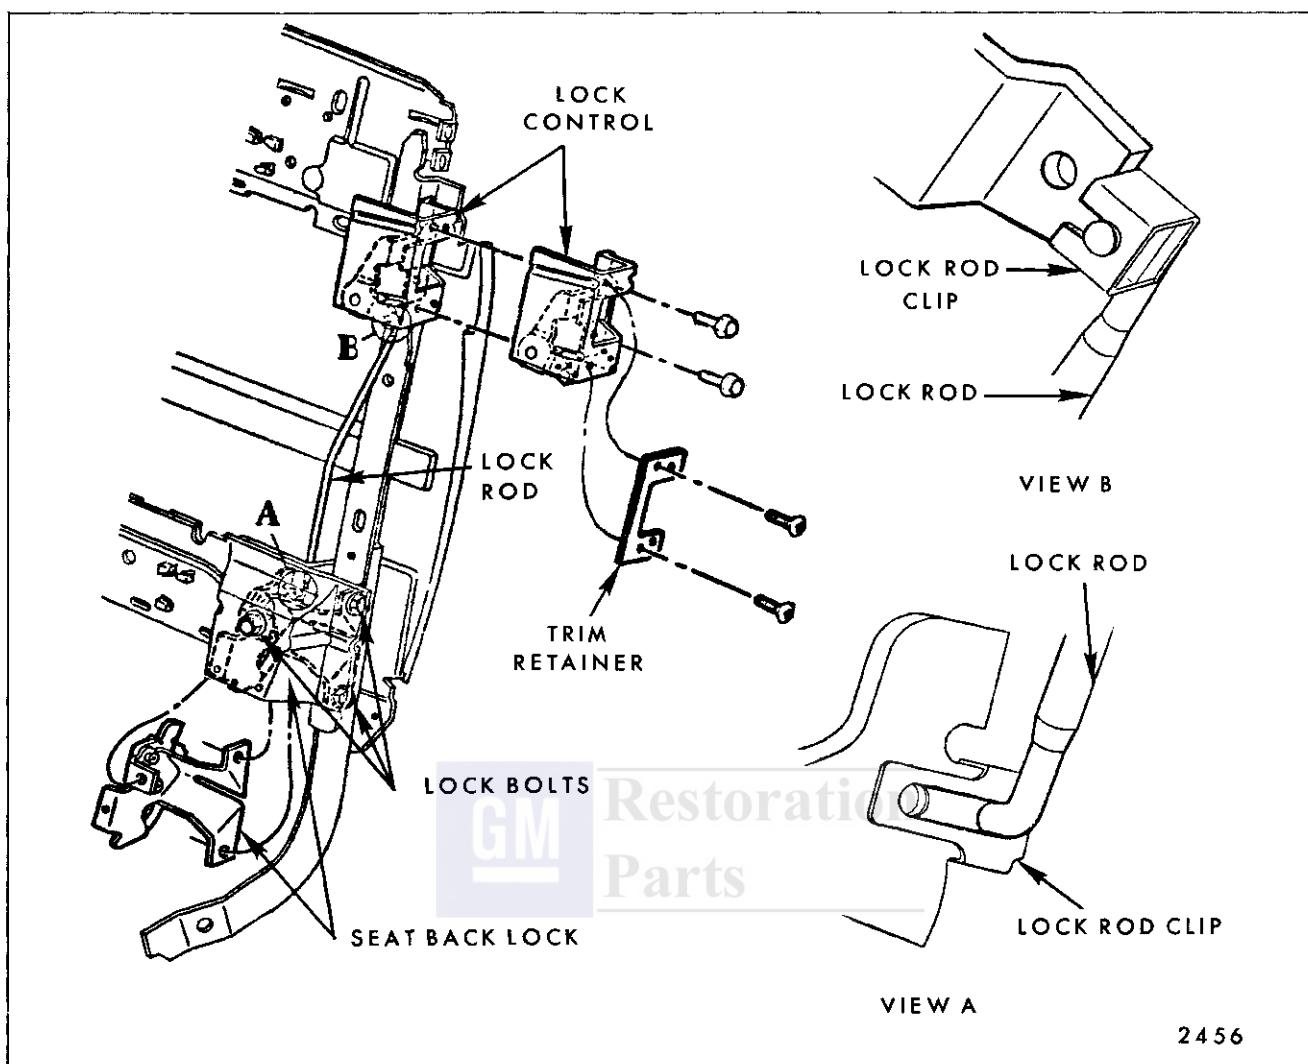

Fig. 15-23—Front Seat Back Lock - "C & E" Body Two-Door Styles, Standard Full Width Seat
3. Remove seat back outer panel. Remove hog rings securing seat back panel or seat back trim panel along bottom and sides of seat. If removing lock, turn seat back trim sufficiently to gain access to lock attaching bolts. If removing lock control or rod, turn up trim to gain access to lock control bolts (See Fig. 15-23).
4. a. To remove seat back lock, disengage lock rod clip at lock (Fig. 15-23) and detach rod from lock. Remove lock attaching bolts (Fig. 15-23) and remove lock from bottom of seat back.
b. To remove seat back lock control, disengage lock rod clip at control (Fig. 15-23) and detach lock rod from control. Remove lock control attaching bolts (Fig. 15-23) and remove lock control from seat back.
- c. To remove lock rod, disengage lock rod clip at lock and at control (Fig. 15-23), detach lock rod from control and lock and remove lock rod from seat back.